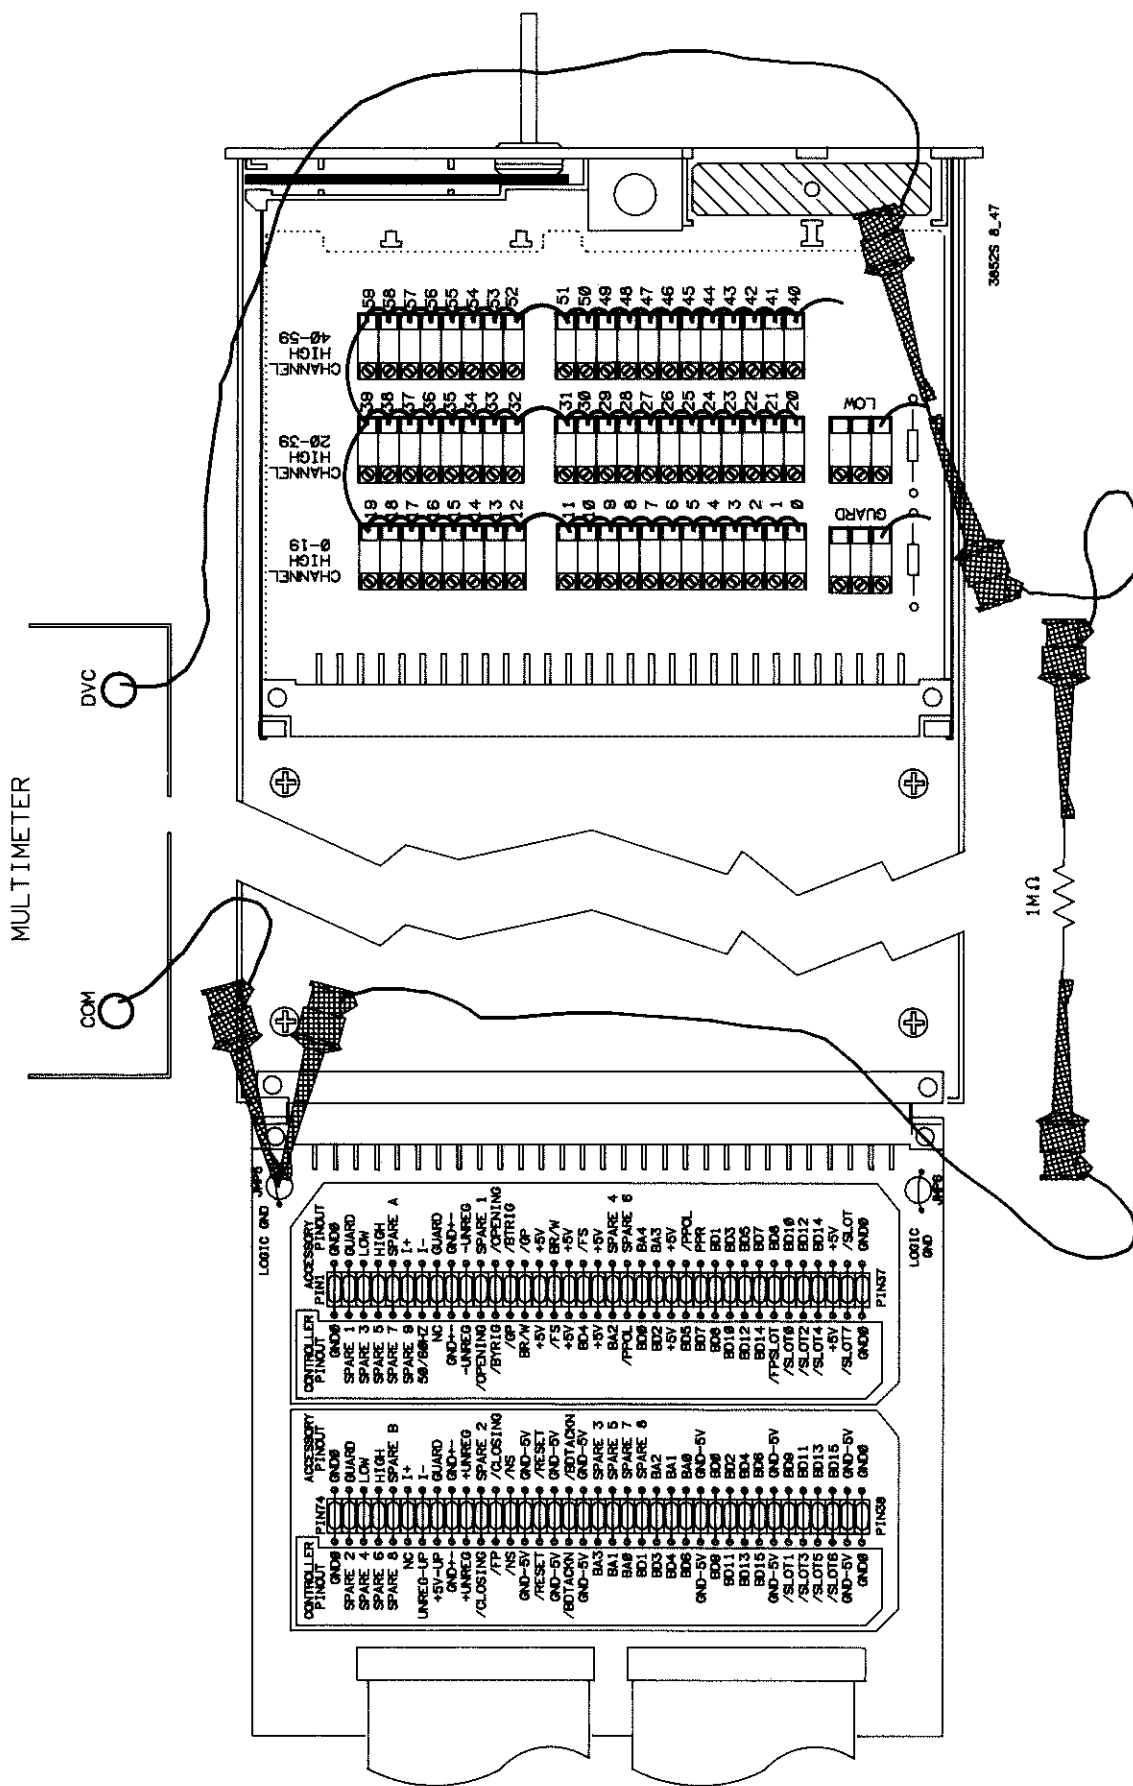

Figure 8-49 HP 44706A LOW Lines Injected Current
7. LOW LINES INJECTED CURRENT TEST. Move the multimeter DCV lead to the LOW connection test point on the test fixture as shown in Figure 8-49.